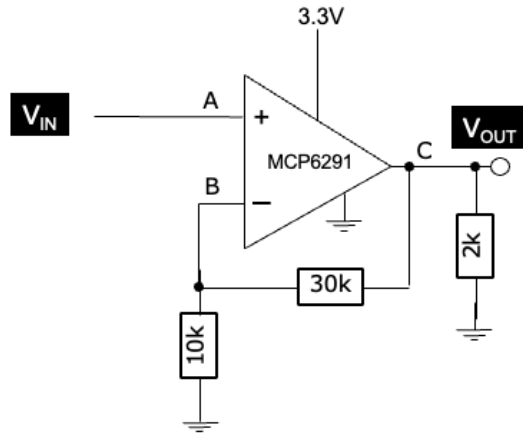

Figure 2.1
- (a) *Figure 2.1* shows MCP6291 is connected as an amplifier. If the input signal V_{IN} is a sine wave at 2.5MHz with an amplitude of 0.25V and a DC offset of 0.5V, what are the maximum and minimum voltages at the V_{OUT} ? State any assumptions made. [6]